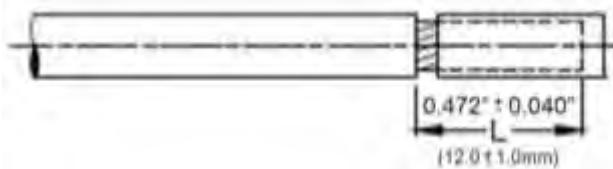

Figure 182
9. Strip to $0.472" \pm 0.040"$ ($12.0 \pm 1.0\text{mm}$) of insulation from each wire segment as shown in Figure 182. Remove the pre-stripped insulation just before installation, in order to avoid damage or conductor oxidation.